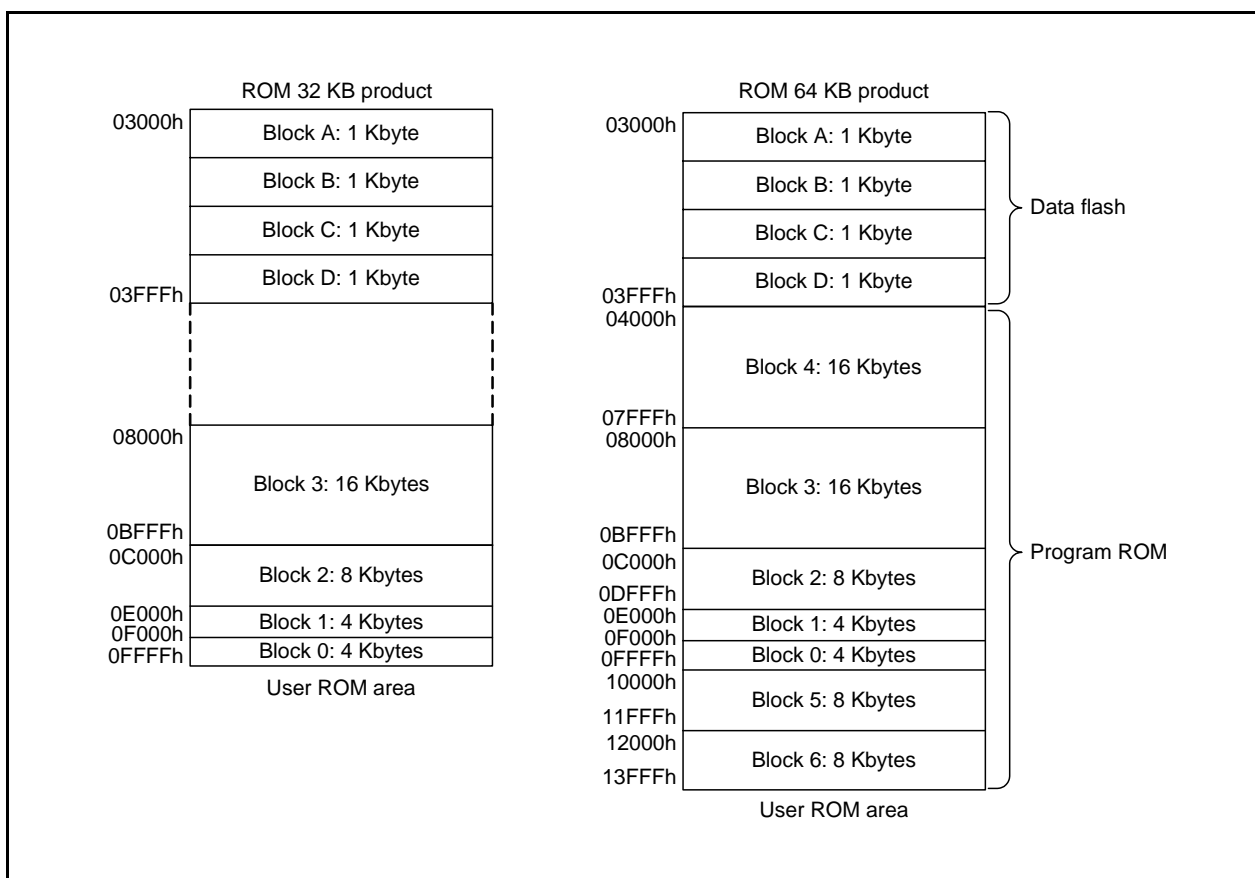
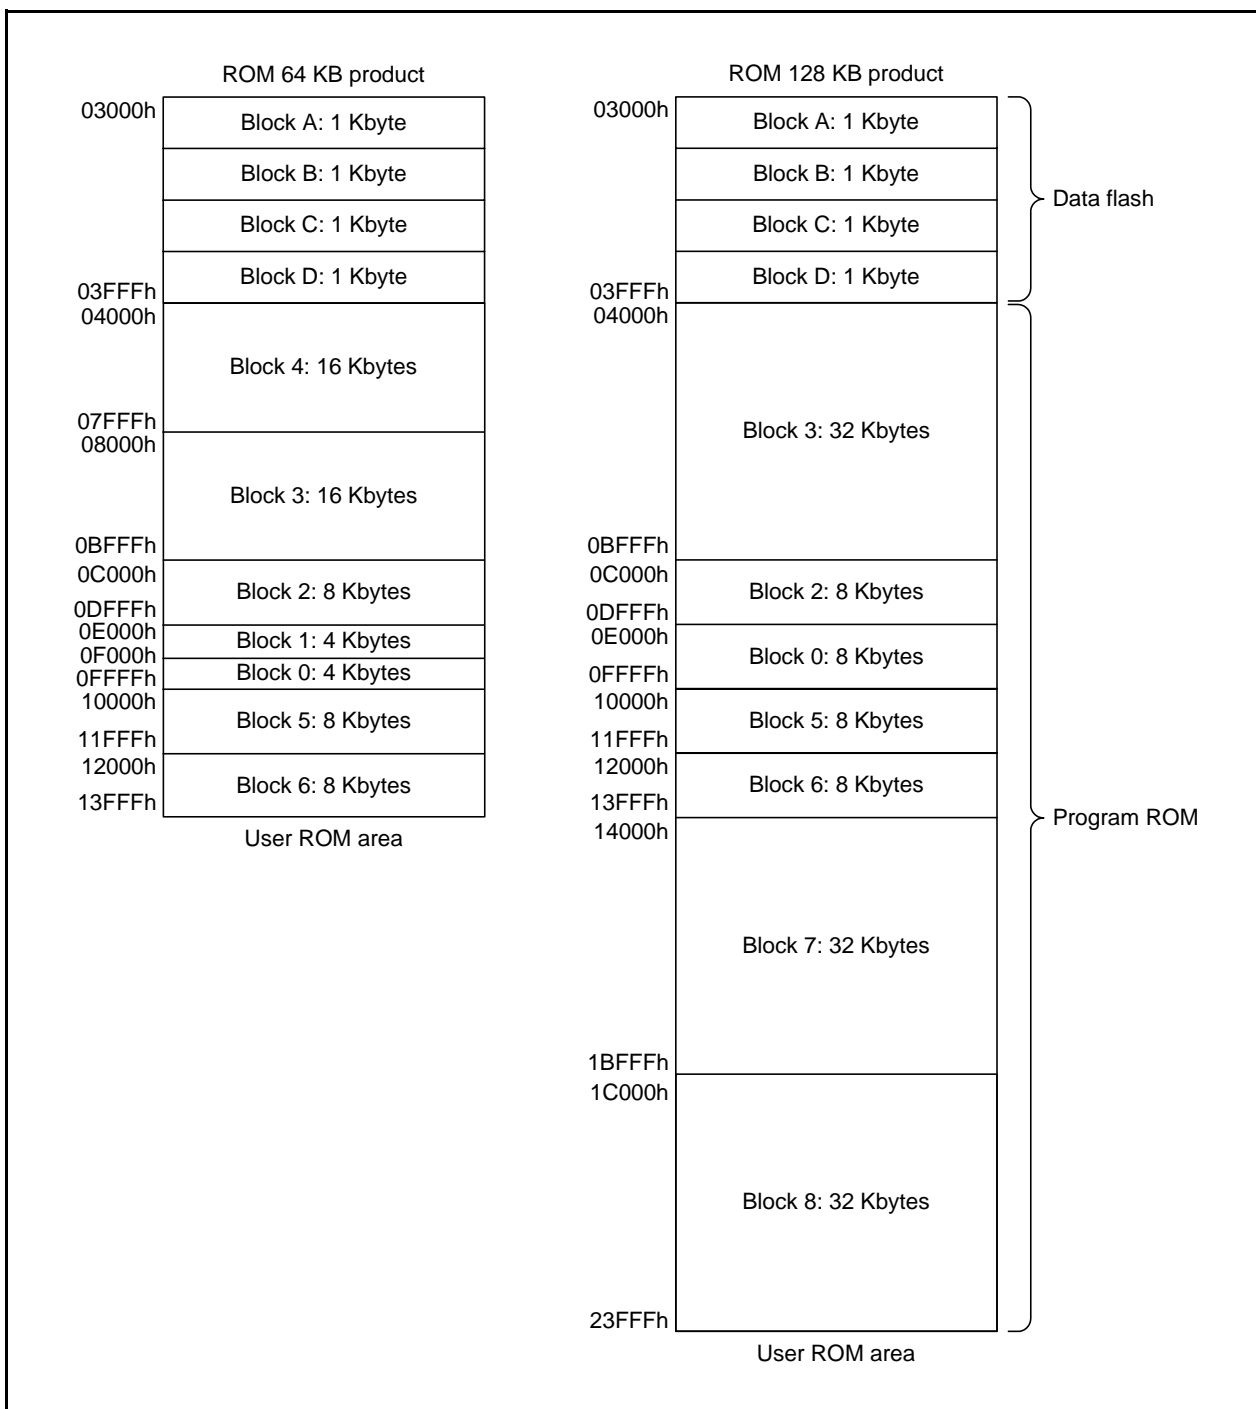

Figure 29.1 Flash Memory Block Diagram of R8C/3MU Group
Figure 29.2 Flash Memory Block Diagram of R8C/3MK Group
- The number of blocks and block division vary with the MCU. Refer to **Figures 29.1 and 29.2 Flash Memory Block Diagram of Each Group** for details.
Figure 29.1 shows Flash Memory Block Diagram of R8C/3MU Group, and Figure 29.2 shows the Flash Memory Block Diagram of R8C/3MK Group.